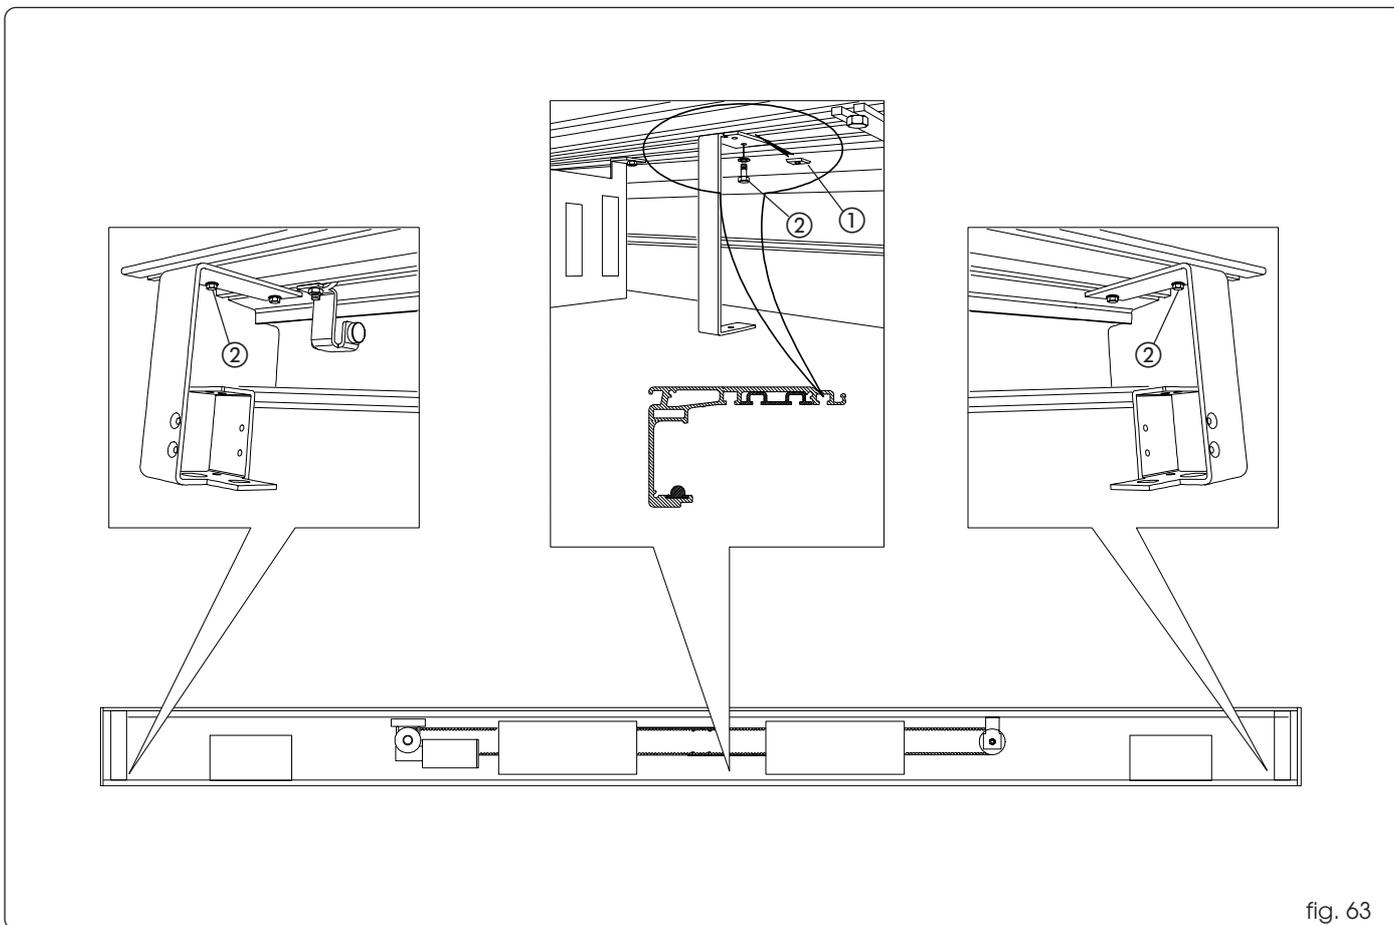

fig. 63
Fit another 2 plates at the centre of the header for securing the central bracket as shown in fig. 63 ref. ①. Secure the three brackets, using the appropriate screws as shown in fig. 63 ref. ②.